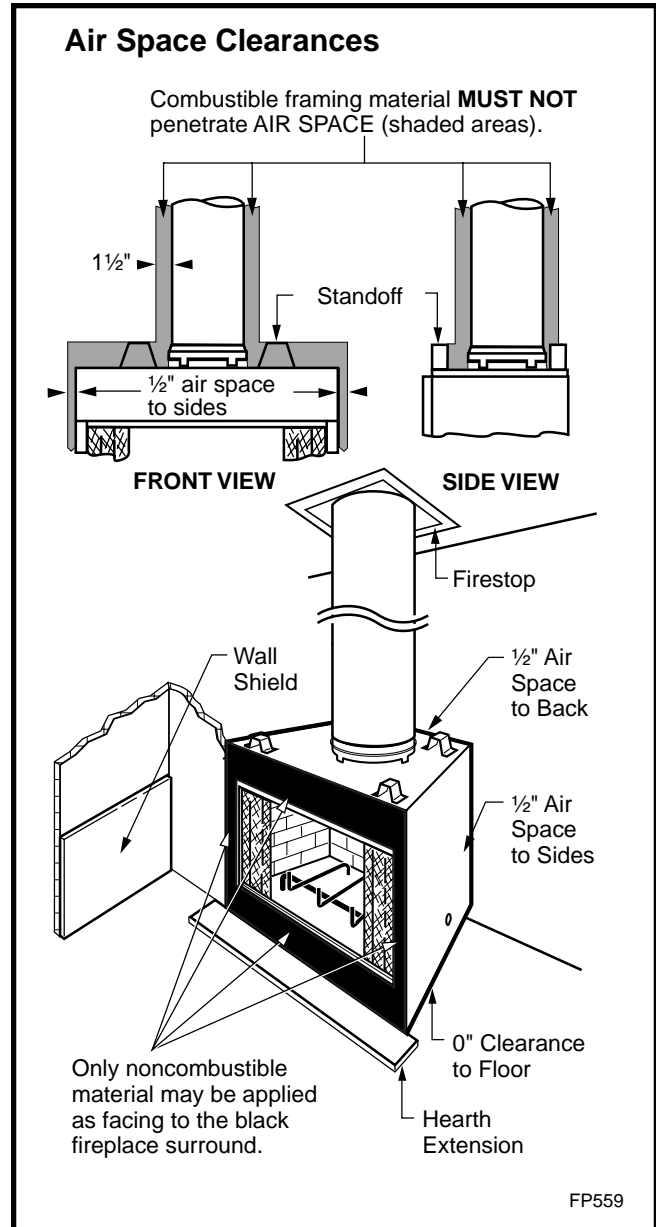

Fig. 20 Minimum clearances to combustibles.
**CAUTION:** All joints between the finished wall and the fireplace surround (top/sides) must be sealed with non-combustible material to prevent cold air leakage into the room. Only non-combustible material may be applied to the facing of the fireplace surround. (Black painted area) (Fig. 20)
The special wall shield design described in Figure 20 is an alternate method of adding protection to side walls and can be used in place of the SP40 with the same wall clearances specified for the SP40. Rt must =1.85 minimum.